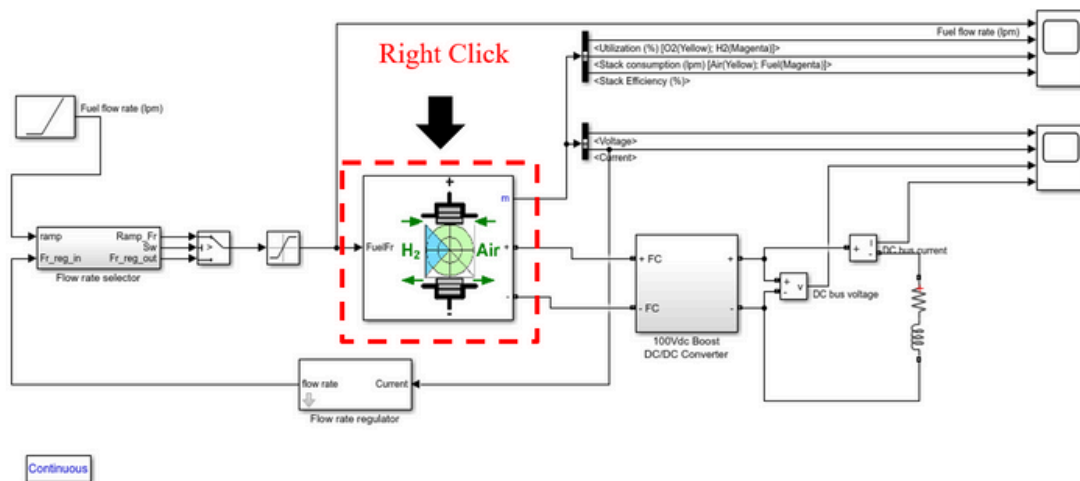

Figure 6.2 : MATLAB Simulink – fuel cell model[4]
3. Figure 6.2 shows the MATLAB Simulink of fuel cell model.